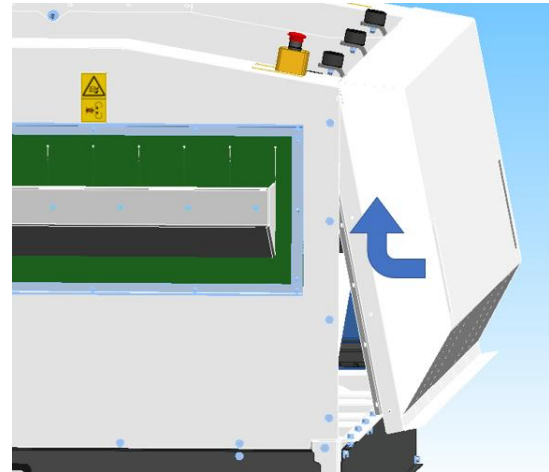

Figure 1. Installing the protective cover
1. Depending on the transport: start by placing the protective covers on the long side. Tilt the cover slightly so that it can be slid under the top edge. The bottom edge can then be positioned by pushing it in the direction of the machine. Then, tighten all bolts/nuts (Figure 1).